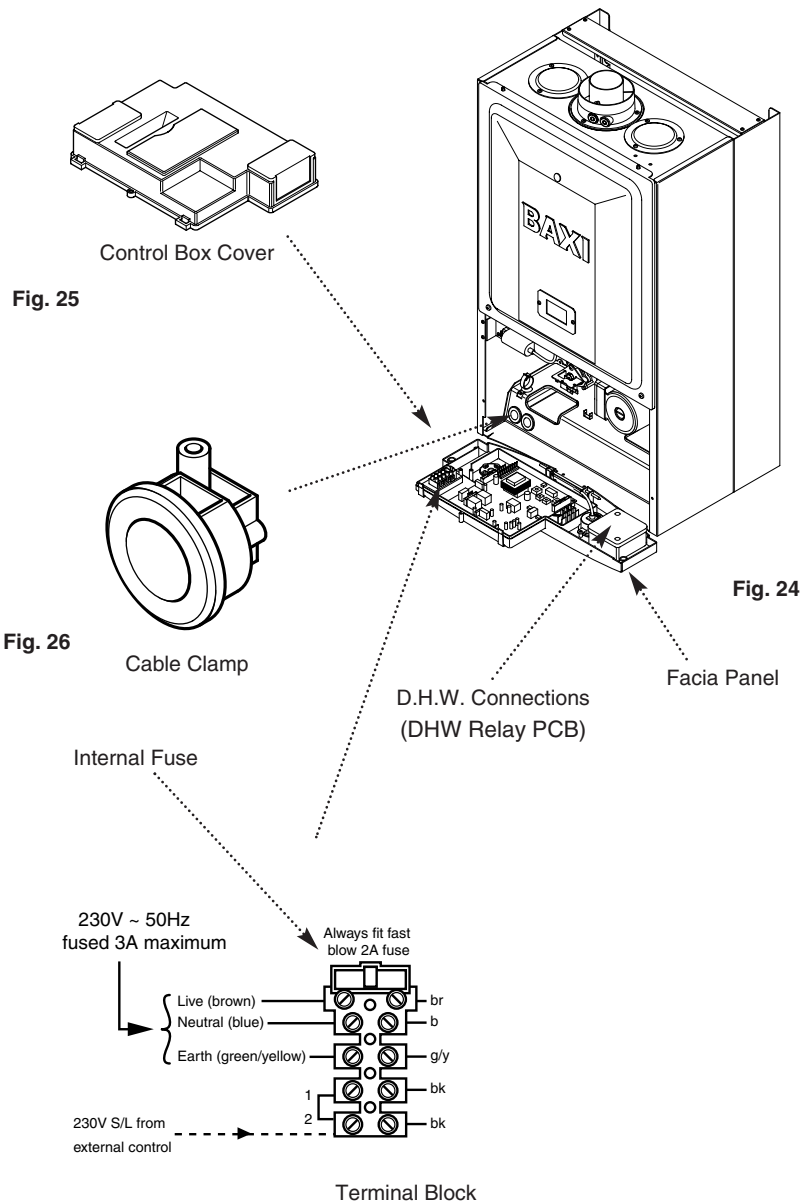

Fig. 27
7. To connect external control(s) remove the link between terminals 1 & 2. The switched output from the external control must be connected to terminal 2 (Fig. 27).